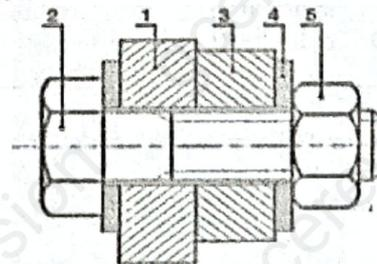

Figure 22
Questions 33 and 34 refer to the assembly drawing in figure 22 below
34. Identify piece 4 in the assembly in figure 22 above